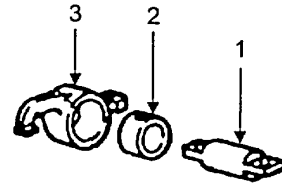

FIGURE 5-21. ROCKER ASSEMBLY
c. Measure rocker shaft (Figure 5-21, Item 1) diameter. If rocker shaft diameter is smaller than 0.7074 inch (17.974 mm), it must be replaced.
d. Measure rocker bore bushing (2) inside diameter. If rocker bushing bore is greater than 0.7084 inch (17.994 mm) replace bushing (2).
e. Measure rocker (3) radius. The radius must be 0.315 inch (8 mm). No flattening or brinnelling is permitted on the rocker radius. If there is evidence of flattening, the rocker must be replaced.